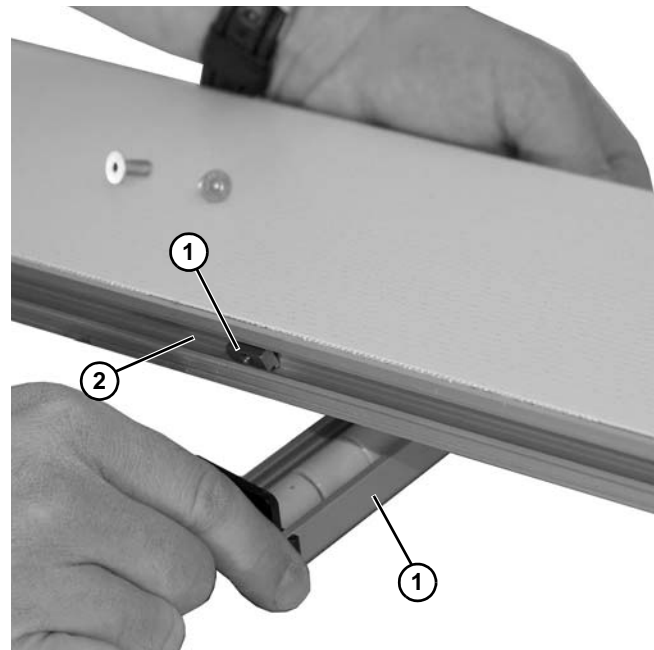

Figure 11
3. Insert one T-bar (**Figure 11, item 1**) into conveyor side slots (**Figure 11, item 2**) with a needle nose pliers.
4. Install roller assembly (**Figure 11, item 1**) as shown.